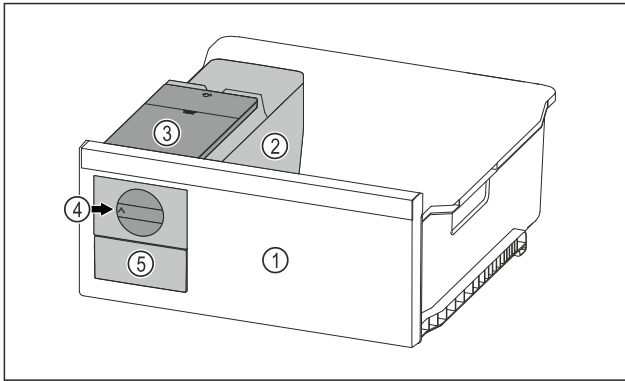

Fig. 108 Example illustration
- Turn the rotary knob Fig. 108 (4) clockwise as far as it will go.
- ▷ Ice cubes fall from the ice cube tray into the ice cube drawer Fig. 108 (5).